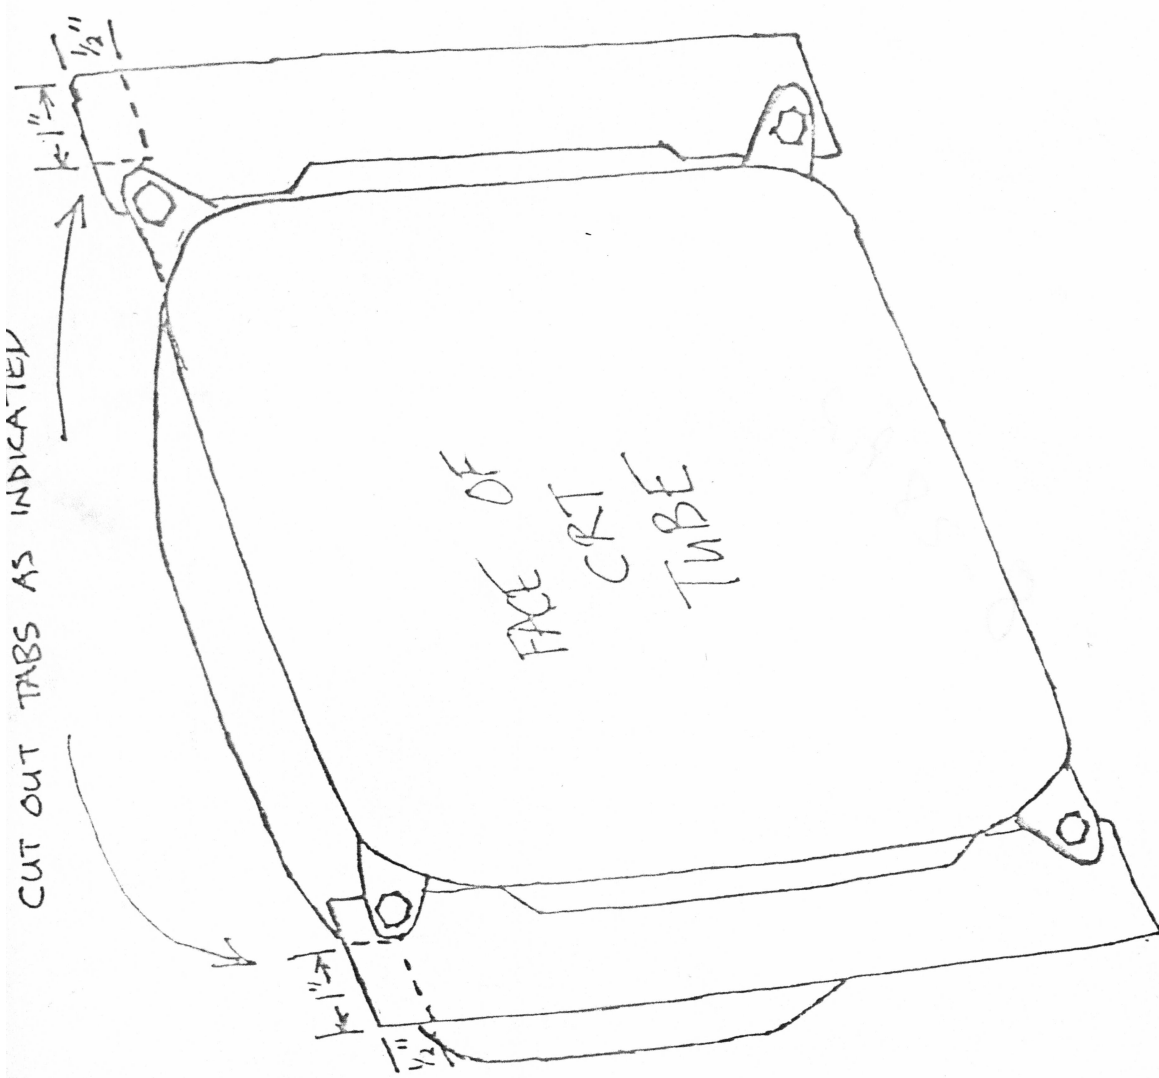

FIGURE 1
5. Trim metal CRT mounting flanges with hacksaw or jigsaw as shown in figure 1.